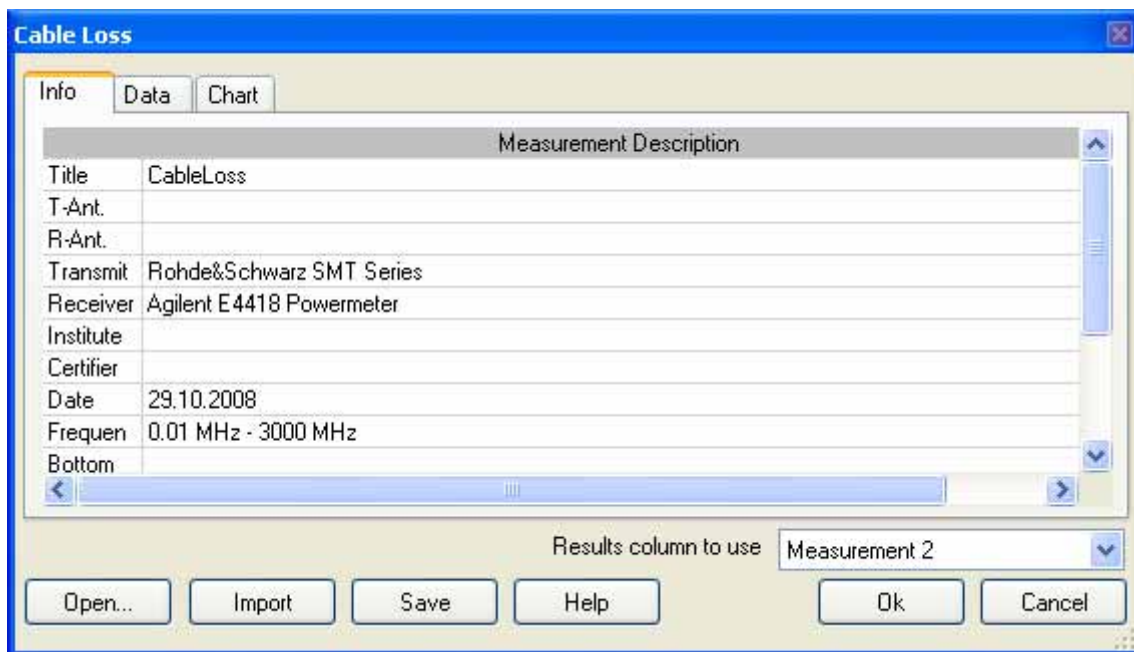

Figure 23: Factor file dialog – Info tab
Some measurement types require various factor files to be set their measurement settings. This involves cable loss factor, transmit/receive antenna factors, dual antenna factors and others. By clicking the folder button in the measurement settings panel at the certain factor file parameter, factors file dialog pops up (see **Figure 23**). This dialog contains three tab pages:
1. Info page – displays description of the given factor measurement (see **Figure 23**)